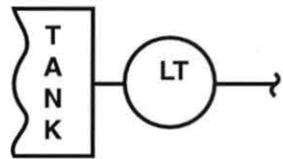

Figure 44. Level Sensing Element Symbol
8. Determine what type of level sensing element symbol is shown in figure 44.